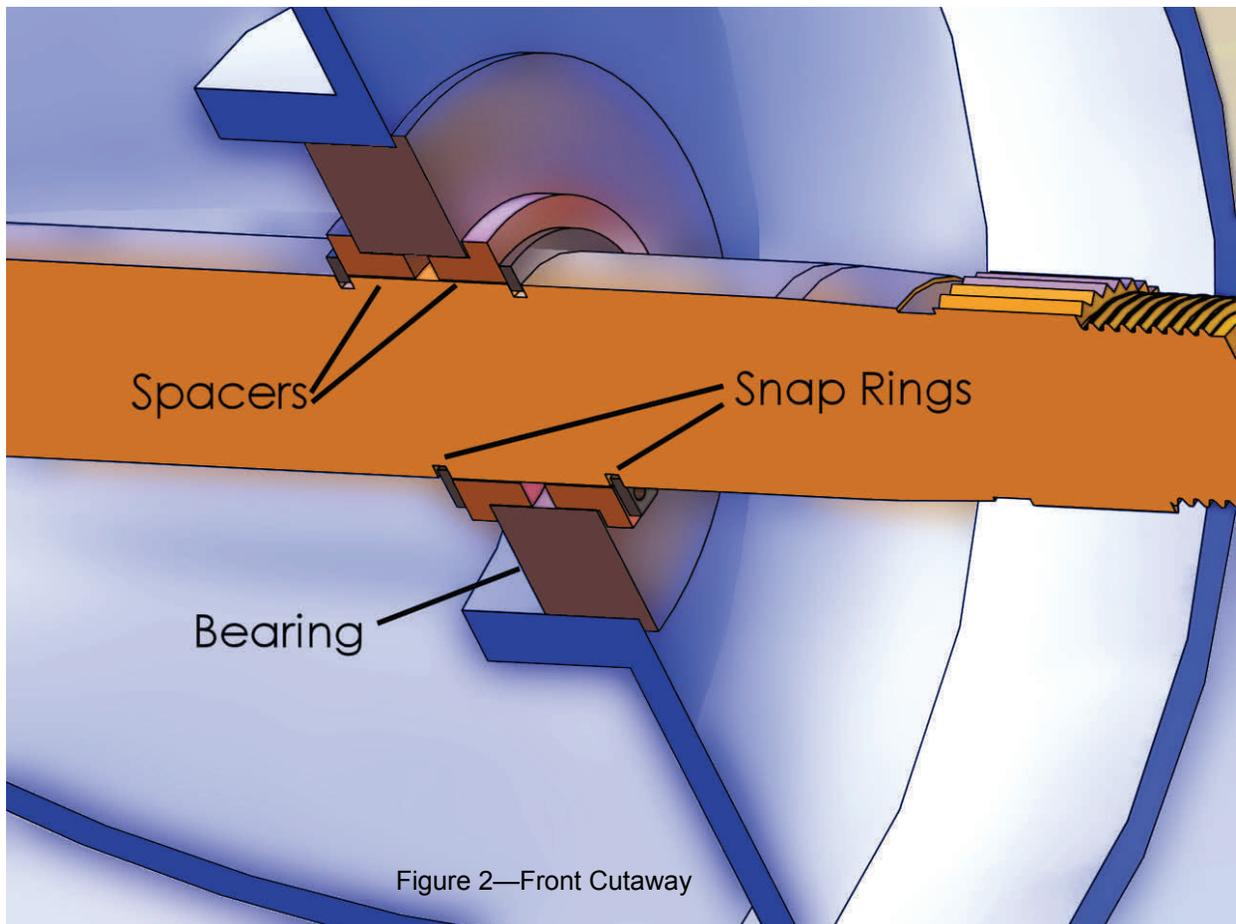

Figure 2—Front Cutaway
4. Install upper spacer and snap ring as shown in Figure 2.